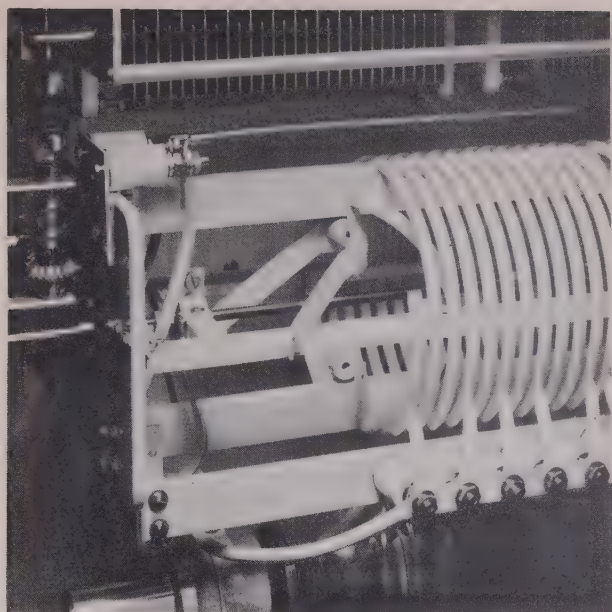
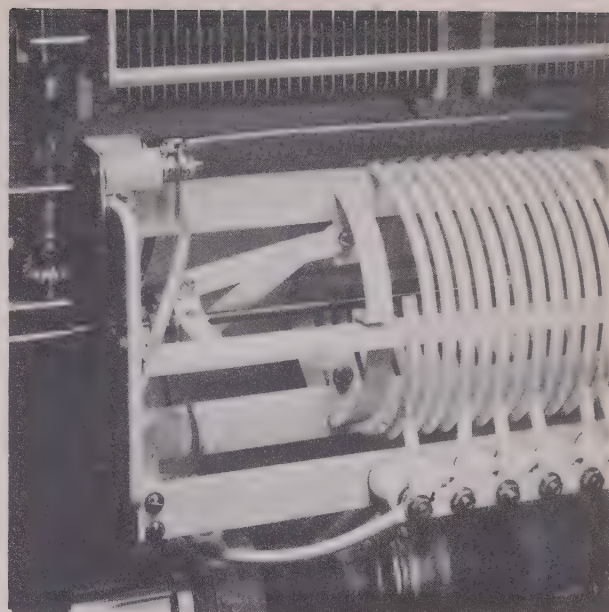

Figure 33. Radio Transmitter Model 96D, antenna coil L-11E, installation step 4
Figure 34. Radio Transmitter Model 96D, antenna coil L-11E, installed
(7) Insert front half of coil by first turning the section so that its lead is perpendicular to the thread shaft. Place on the horizontal insulated frame and in so doing, the lead will be turned in the direction of the threaded shaft. See Fig. 33.
(8) This lead of the coil is then fastened to the upper terminal of the coil carriage.
(9) Connect both halves of the coil together by screws at the spacers, which are threaded. Figure 34 shows the coil connected and in place.